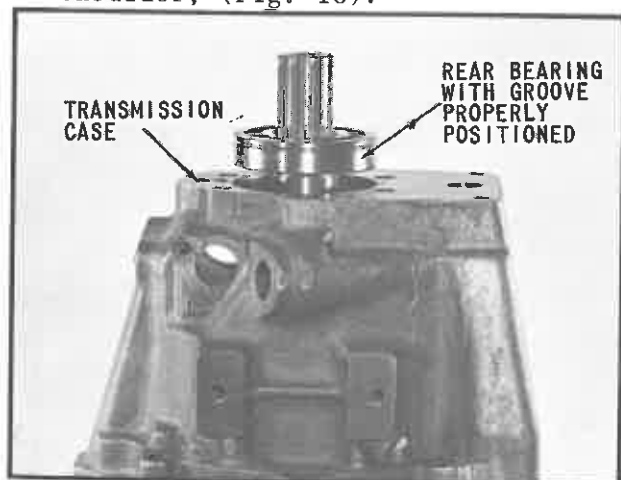

Fig. 17 Output Shaft Bearing Properly Positioned for Assembly
6. With the groove on the outside diameter of the bearing located toward the rear of the transmission, as shown in (Fig. 17), place the bearing over the projecting output shaft and squarely in the bearing bore.